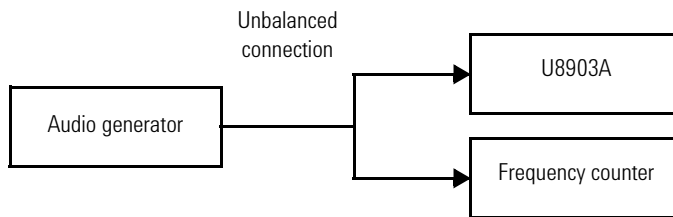

Figure 3-3 Audio generator to frequency counter and U8903A connection for frequency accuracy verification
- 1 Connect the audio generator to the frequency counter and the U8903A input channel to be tested via the Unbalanced connection as shown in Figure 3-3. Preset the U8903A, audio generator, and frequency counter.